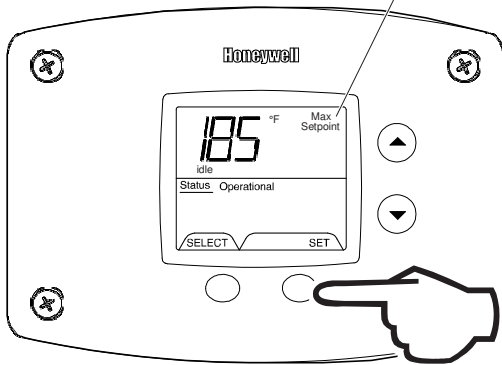

Fig. 40
2. Press 'Set' button to enter setting mode. 'Max Setpoint' will flash to indicate setting mode (Fig. 40).